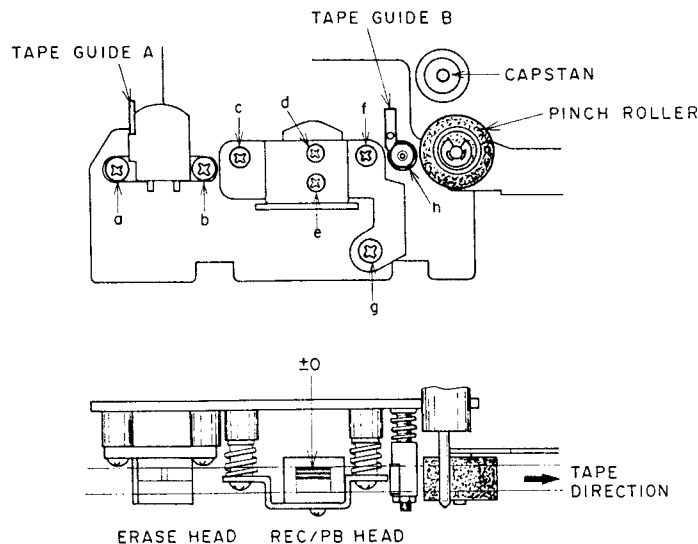

Fig. 9 Head Adjustment
(Refer to Figs. 9, 10)
- 2) At playback mode, using the tape guide (A) shown in Fig. 9 as standard for height, adjust tape guide (B) height with tape guide height adjustment nut so that the tape runs smoothly and does not catch on the tape guides.
2. RECORDING/PLAYBACK HEAD HEIGHT ADJUSTMENT (Refer to Figs. 9, 10)
- 2) As shown in Fig. 9 adjust head height with screws (c) (f) and (g) until the upper edge of the tape is the same height as the upper edge of the left channel REC/PB head core.
3. RECORDING/PLAYBACK HEAD AZIMUTH ALIGNMENT ADJUSTMENT (Refer to Fig. 9)
- 1) Playback a 10 kHz pre-recorded cassette azimuth alignment test tape and adjust screw (g) shown in Fig. 9 to obtain maximum output on both channels.